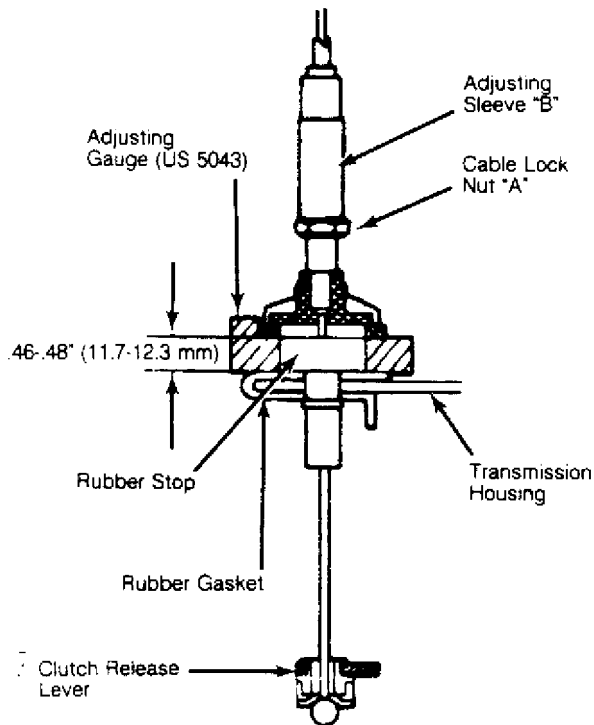

Fig. 1: Adjusting Clutch Cable
2) Turn adjusting sleeve "B" until zero free play is obtained at adjusting gauge. Tighten cable lock nut "A" to 36-53 INCH lbs. (4-6 N.m). Remove adjusting tool. Verify clutch free play at clutch release lever is 1/4" (6 mm). See Fig. 1.